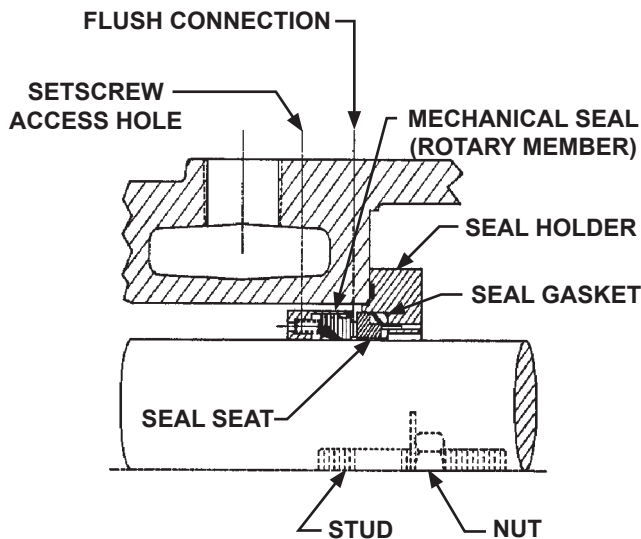

FIGURE 9
3. PTFE Wedge (**Figure 9, page 9**)